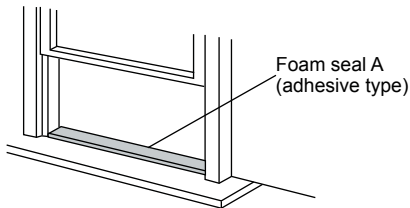

Fig. 8
1. Cut the foam seal (adhesive type) to the proper length and attach it to the window stool. Fig. 8